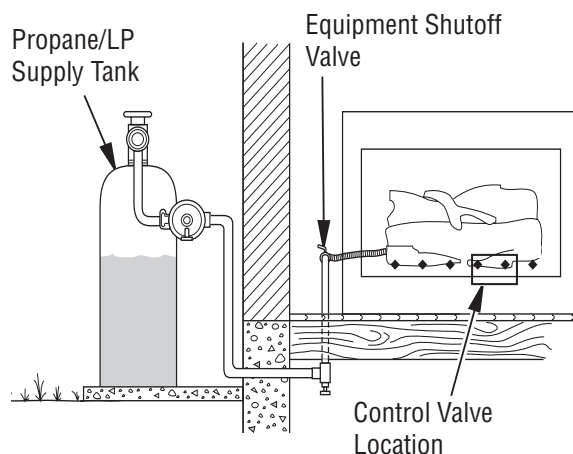

Figure 15 - Checking Gas Joints (Propane/LP Gas Only)
3. Check all joints from gas meter to equipment shutoff valve for natural gas or propane/LP supply to equipment shutoff valve for propane/LP (see Figure 15 or 16). Apply noncorrosive leak detection fluid to all joints. Bubbles forming show a leak.
4. Check all joints from equipment shutoff valve to gas control (see Figure 15 or 16). Apply noncorrosive leak detection fluid to all joints. Bubbles forming show a leak.